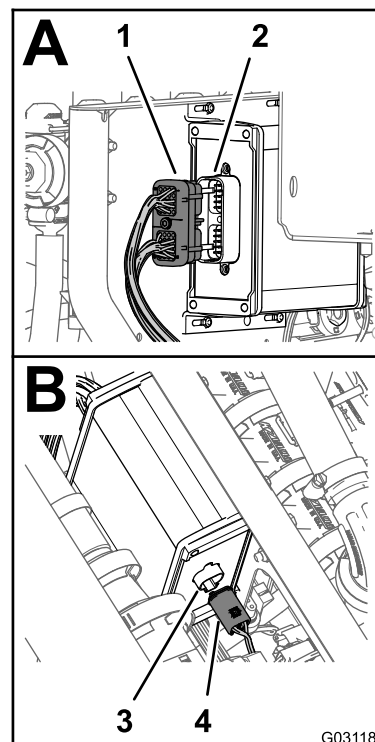

Figure 161
- Align the 40 socket connector labeled **ASC 10** of the 203 cm (80 inches) wire harness branch with the 40-pin connector sprayer controller (Figure 161).
- Align the 4 socket connector labeled **To ASC 10** of the 203 cm (80 inch) wire-harness branch with the 4-pin connector sprayer controller (Figure 161).